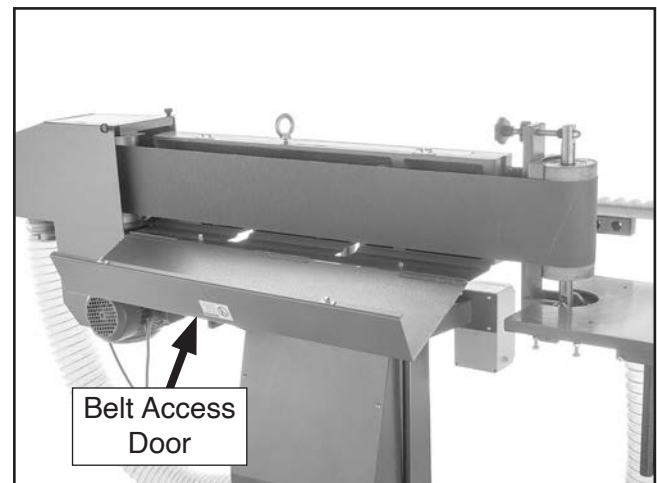

Figure 37. Belt access door pushed open.
5. Push belt access door toward rear of machine to open it (see **Figure 37**).